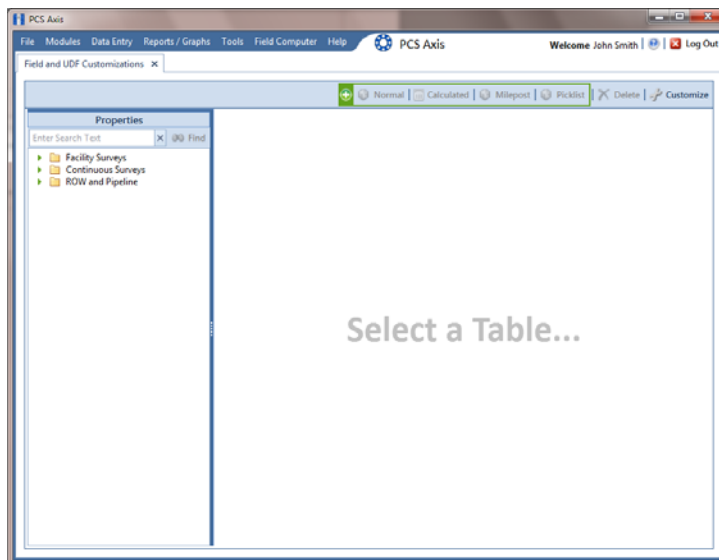

Figure 2-17. Field and UDF Customizations
- 1 Click **Tools > Field and UDF Customizations** to open the *Field and UDF Customizations* window (Figure 2-17).